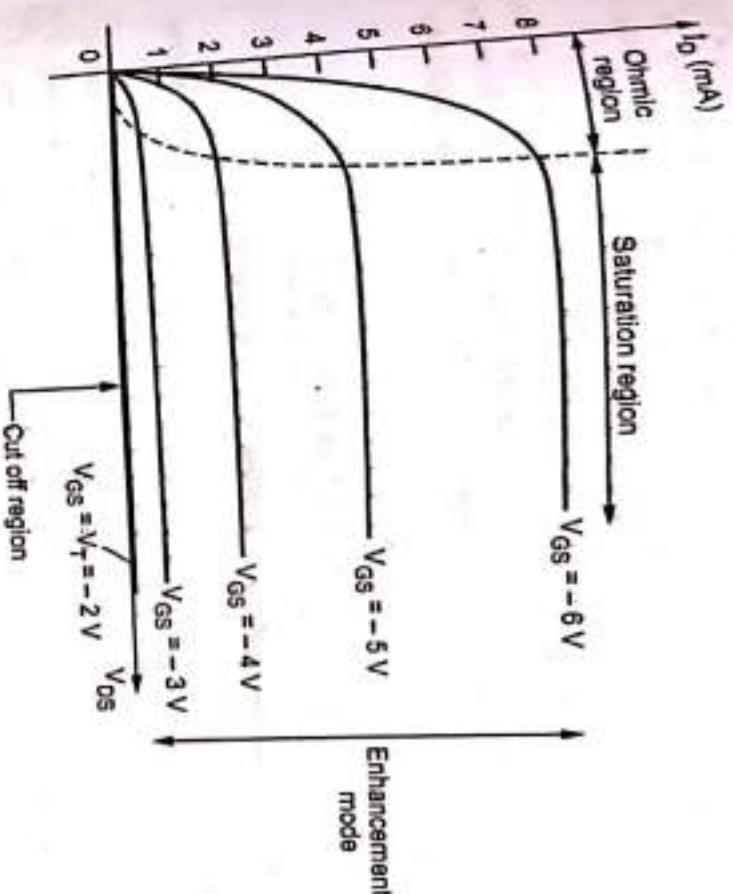

Fig. Q.31.1 Drain and transfer characteristics for p-channel Enhancement-type MOSFET
**Ans.:** Fig. Q.31.1 shows the drain characteristics of enhancement type MOSFET.
- Fig. Q.31.1 (a) shows the transfer characteristics of p-channel enhancement type MOSFET. In the p-channel enhancement type